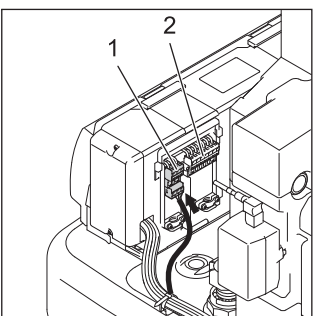
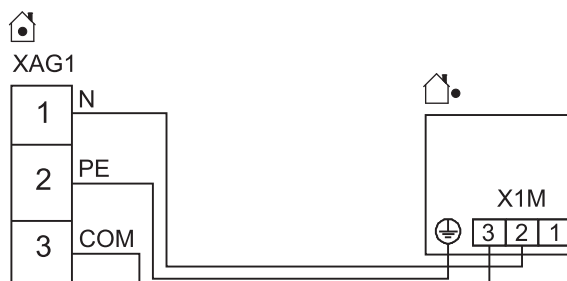

Fig. 3-20 Make the electrical connections to the rear of the housing (see section 3.4.1).
Fig. 3-22 Connection of exterior heat pump unit
- Connect the exterior heat pump unit to the terminal strip XAG1 (see figure 3-20, figure 3-22).